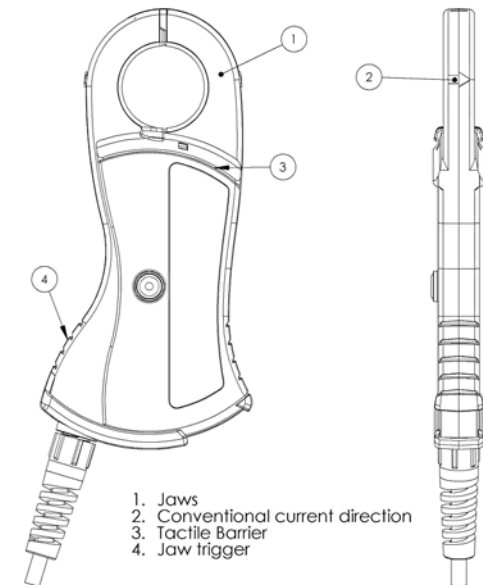

Fig. 1
- Do not hold the probe anywhere beyond the tactile barrier: see Fig. 1.
Safety in its use is the responsibility of the operator, who must be a suitably qualified or authorized person. Ensure that your fingers are behind the tactile barrier (see Fig. 1) when using the probe. Always inspect the probe and lead for damage before use.